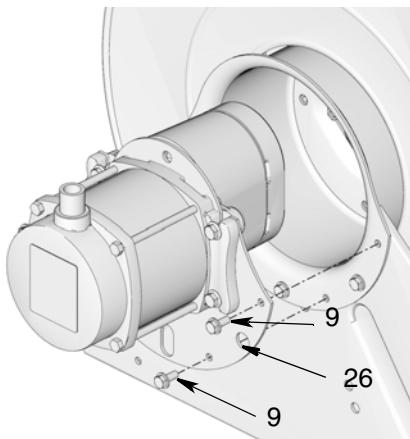

FIG. 16: Electric Motor Shown
9. Remove motor module (26).
- a. Remove bolts (9) holding motor module (26) to reel (FIG. 16).